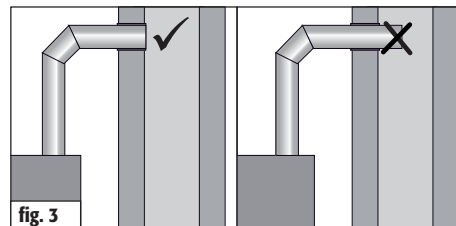

fig. 3
**The flue pipe must be well sealed at the chimney entrance and cannot project into the inner cavity of the chimney; otherwise the flue venting will be impaired (fig. 3).**